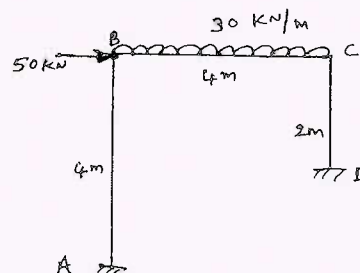

Fig Q10
- 10 Analyse the portal frame shown in Fig Q10 by stiffness matrix method. Draw bending moment diagram.